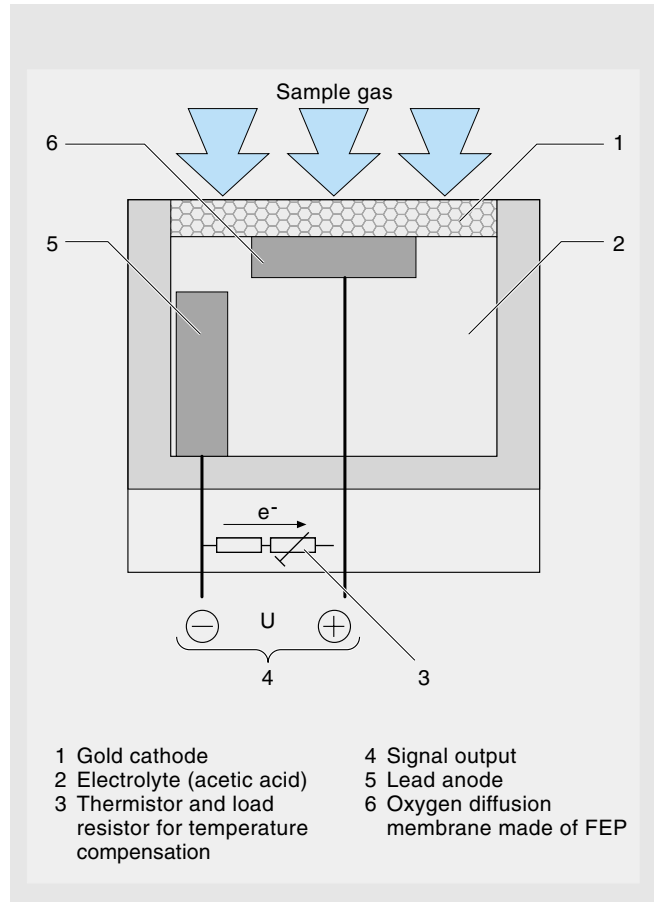

Fig. 3.4 ULTRAMAT 23, mode of operation of oxygen measuring cell
- 11 Oxygen measuring cell¹⁾ (see Fig. 3.4)